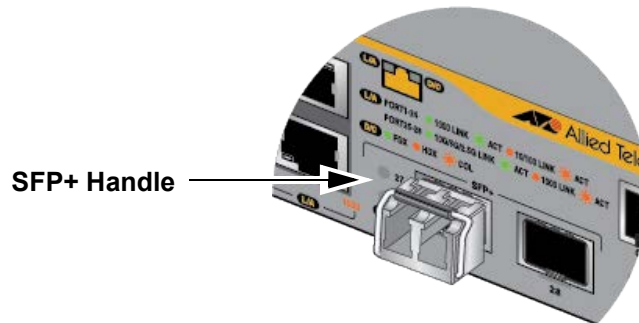

Figure 79. Positioning the SFP+ Handle in the Upright Position
6. Verify that the transceiver handle is in the upright position. Refer to Figure 79.